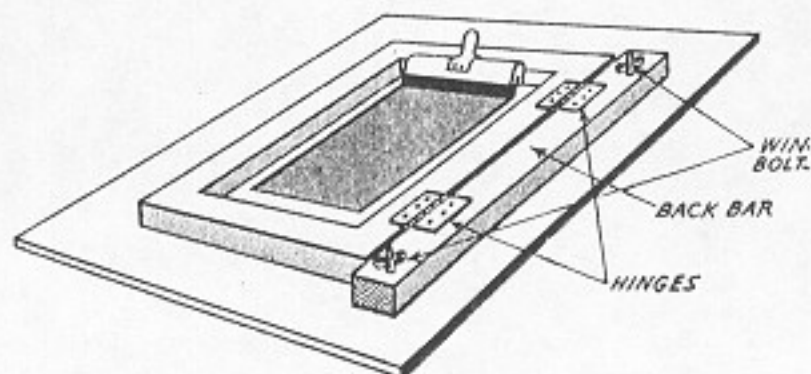

Fig. 41. Back Bar Fastened With Wing Nuts
3. Fig. 41 shows a back bar which is attached to the base with wing nuts. A bar of this type may be raised or lowered so that it is exactly the same height as the frame. The height should be adjusted with a piece of the material to be printed inserted beneath the frame.
It is sometimes necessary to print on a surface which is higher than the thickness of the paper or card stock, such as on a wooden toy or the side of a box. To do this, the backbar, illustrated in Fig. 41, is raised to the same height as the object to be printed, by using various thicknesses of wood and cardboard strips in combination. The bolts on which the wing nuts are fastened will have to be replaced by longer ones to accommodate the greater height.